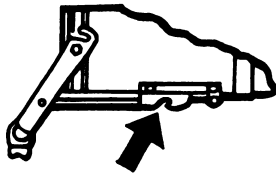

Figure 3
3. Check that the forward bipod brace is engaged (fig. 3).